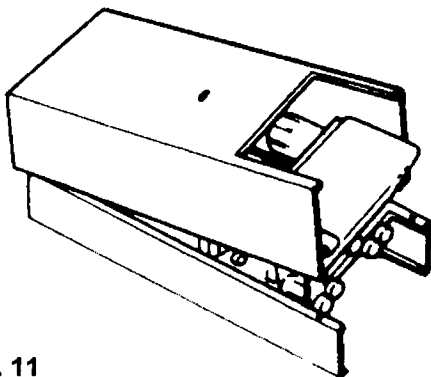

Fig. 11
- 5.3.2 Slightly lift the casing and slide it gently towards the top of the appliance to disengage the case from the top suspension hooks. (Fig. 11)